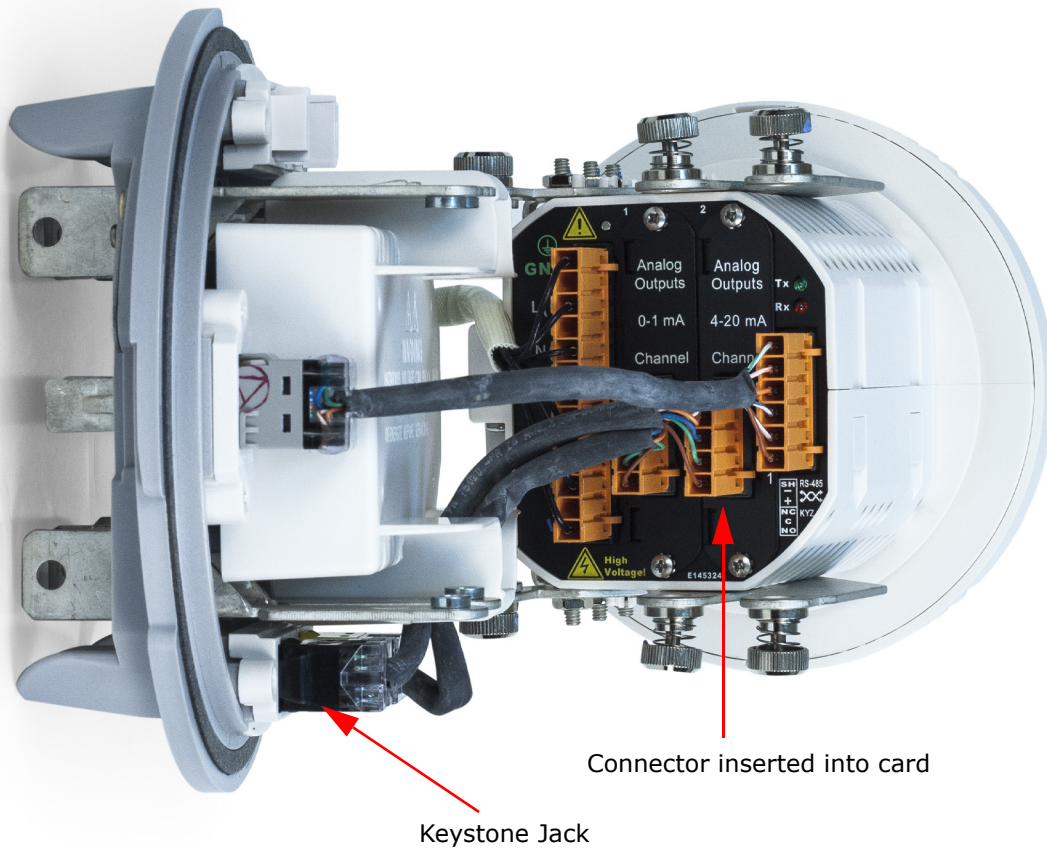

Figure 8.20: Routing Wires and Plugging Connector in the Card
- d. All wires are routed as shown in Figure 8.20: Routing Wires and Plugging Connector in the Card, on page 8-38.